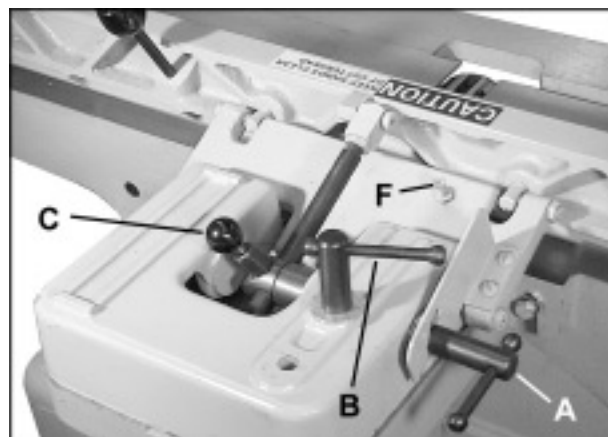
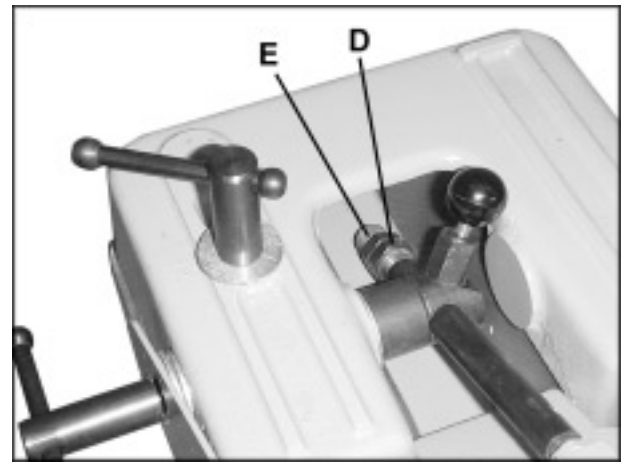

FIGURE 13
FIGURE 14
The fence may be moved forward and back across the table by loosening the lock screw (A) as shown in Figure 13.
1. To tilt the fence forward in the cradle-cut position, loosen the fence lock screw (B). Pull up on the fence lock plunger (C) and tilt the fence forward.
3. The two jam nuts (D & E) on the end of the tilt rod are factory pre-set to stop the forward tilt at 45 degrees. See Figure 14. The front nut (D) is used for adjusting and the rear nut (E) to lock the setting. When all adjustments have been made retighten the fence lock screw (B), Figure 13.
4. To tilt the fence backward, loosen the fence lock screw (B). Raise or lower the tilt stop screw (F). When the desired degree of cut is reached, retighten the fence lock screw (B).